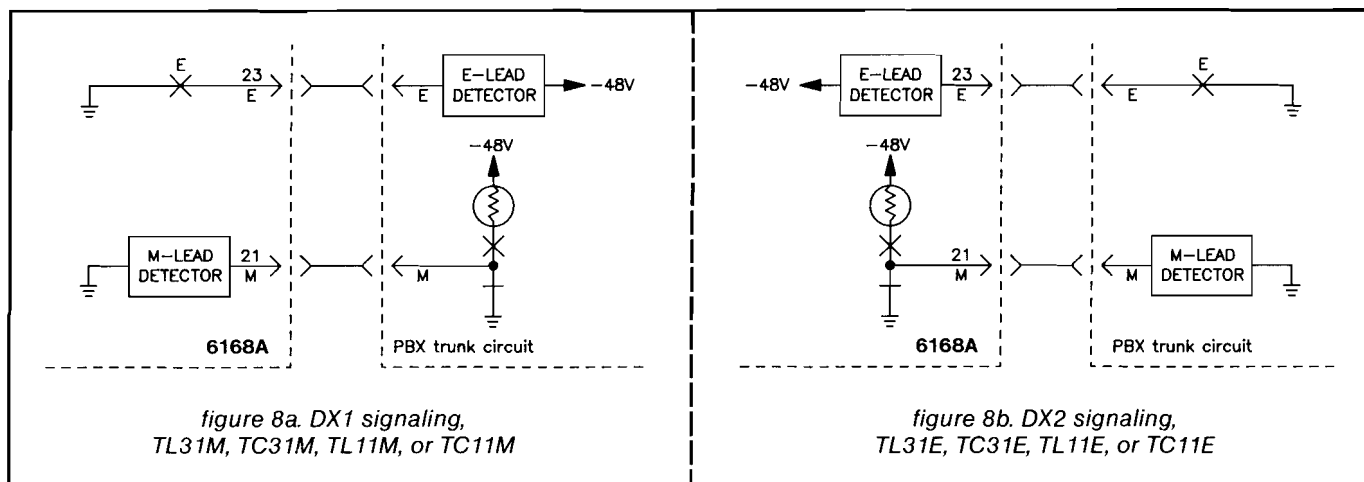

figure 8. Type I E&M interface arrangements
2.15 The 6168A can be switch-optional to derive either a Type I (single-lead) or a Type II or III (looped-signaling-lead) E&M interface. The Type I and Type II interfaces can be used with either DX1 or DX2 signaling. The Type III interface can be used with DX1 signaling only. Figures 8 through 10 show the connections required for Type I, II, and III E&M interfaces with DX1 and DX2 signaling and indicate the Registered Facility Interface Codes (if applicable) that each signaling arrangement fulfills. Table 3 summarizes these codes and the DX1/DX2 signaling and E&M interface options required for each.